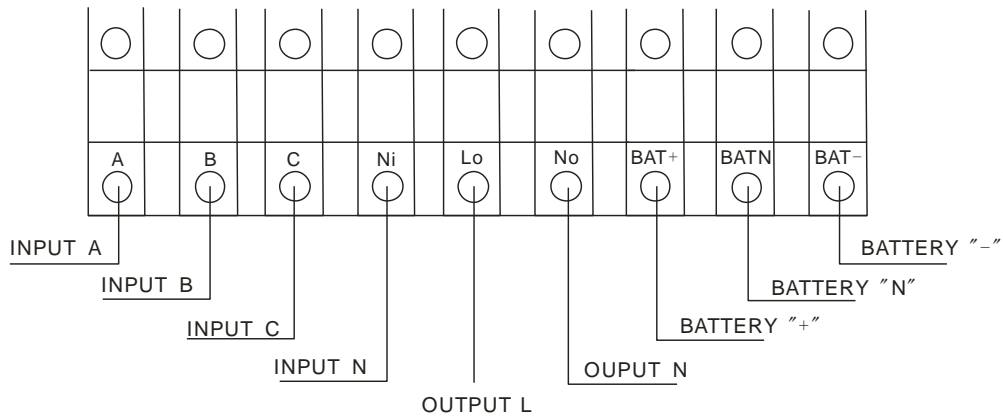

Fig. 4-4 10k/15k/20k I/O terminals connection
2. Remove the cover of the terminals, see Fig. 4-4, and connect the cables correspondingly